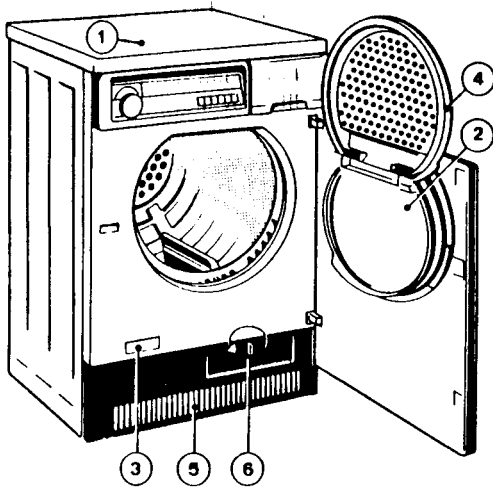

Fig. 1
- Fig. 1/① Worktop (removable)
- Fig. 1/② Fluff filter
- Fig. 1/③ Rating plate (E-No. and F-No.)
- Fig. 1/④ Cover to fluff filter (lift up)
- Fig. 1/⑤ Air vent
- Fig. 1/⑥ Access flap to heat exchanger